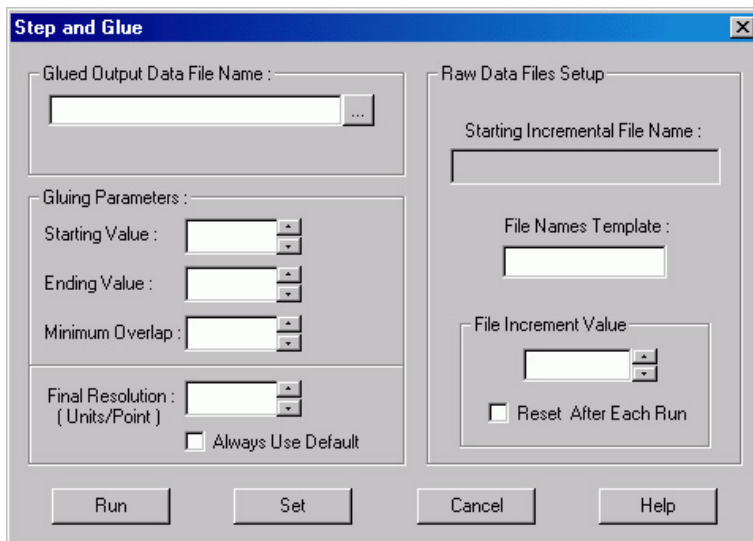

Figure 139. Step and Glue Setup dialog
4. From the Acquisition menu, select **Step and Glue**. The Step and Glue dialog (Figure 139) will appear. *For more information, see the online Help for this dialog.*